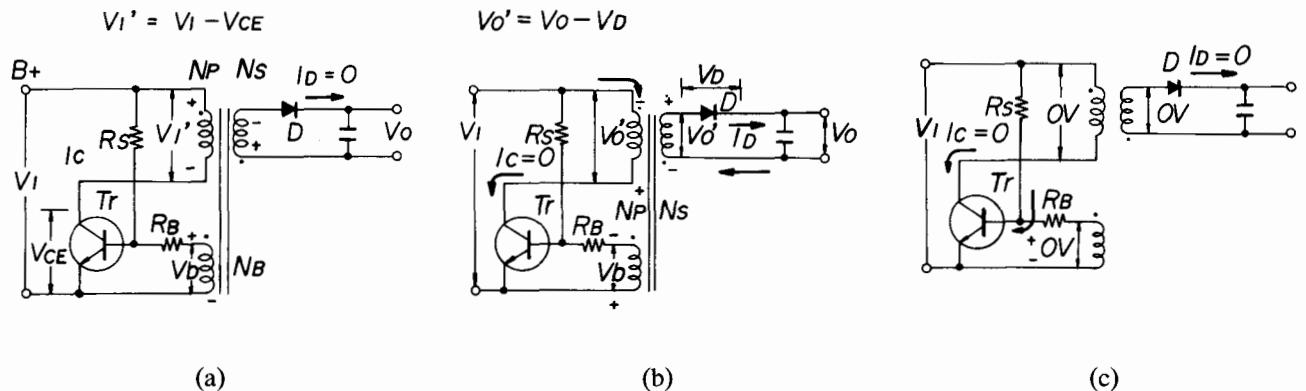

Figure 4-47. R.C.C (Ringing Choke Converter)
This is a one transistor self-excited DC/DC converter, which is called R.C.C. (Ringing Choke Converter). Figure 4-47 shows the principle of the circuit.
- Block ⑤ The Block operates like a Boot-up register Rs in Figure 4-47. The Block is made up of Boot-up circuit, output voltage controller and shut-down circuit, and the block controls TR508 ⑥.
- Block ⑥ This switching transistor operates like a transistor in Figure 4-47.
- Block ⑦ This transformer creates +12V, -12V and -15V output voltages.